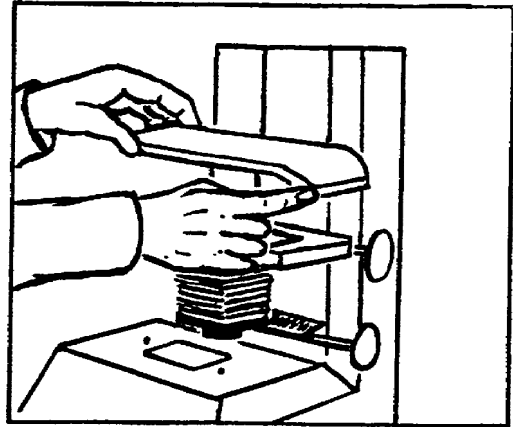

Figure 1-15. Removing Camera Back.
b. Lift the camera back off the camera (fig 1-15), both sides at the same time, insuring not to touch the focal plane shutter now visible in the center of the camera. Touching the shutter could damage it.